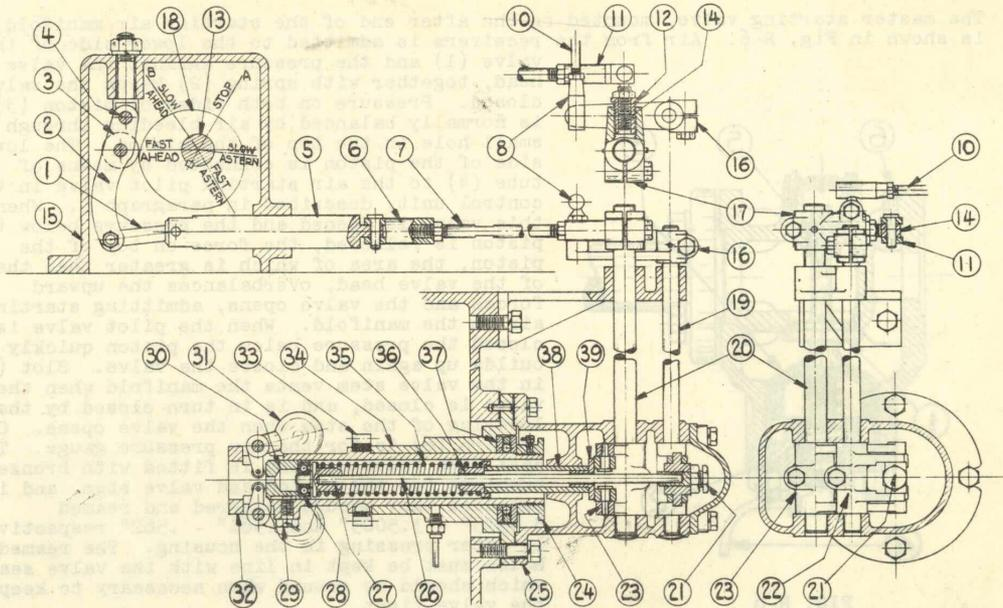

FIG. R-5
The flyball type governor, mounted near the bottom of the forward end of the latch box and driven from the camshaft gear, is shown in Fig. R-5. Cast iron bearing (34) is adjusted and doweled to the latch box to allow .004" to .005" backlash between governor gear (33) which is pressed and keyed to the governor body, and the camshaft gear. Running clearance between governor body (32) and the bearing is .0015" to .0025" and lubrication is from the force feed system of the engine.
The engine speed is controlled by varying the governor spring tension through a linkage from the control lever, as shown in the upper portion of Fig. R-5. (This is section W-W in Fig. R-1 taken through the governor control cam (18)).
Referring to Fig. R-5, it is seen that the governor spring reaction is transmitted from lever (23) which carries hardened rollers that bear against collar (39), through vertical shaft (20) to upper lever (17). This lever is connected by rod (7) to governor cam plunger (5) and by linkage is made to follow motion of governor cam (18). As shown in Fig. R-5, the control lever is in the FAST AHEAD position and cam plunger (5) is pulled to the left the limit of its travel compressing governor spring (35) to its shortest length and allowing fuel wedges to be drawn into maximum fuel position by tension in wedge shaft torsion springs which move governor quill rod (26) to the left till linkage is solid. As the control handle is moved back toward SLOW, the cam drops allowing the roller (3) and cam plunger (5) to move to the right, decreasing the governor spring tension, and allowing governor weights (31) to move out and push the wedges out decreasing the fuel supply to the engine.